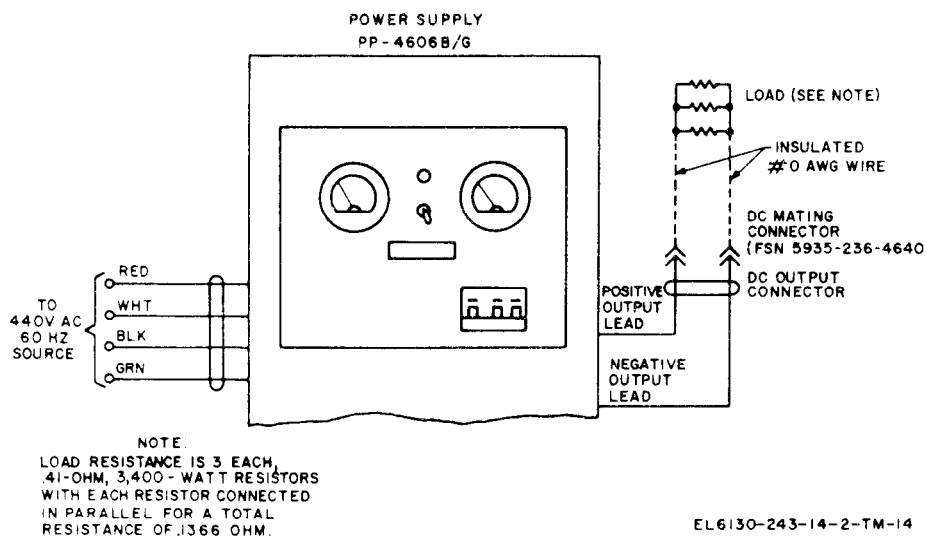

Figure 6-2. Connection diagram for output power test at 440-volt input.
(1) Resistance element, 0.41-ohm, 3,400-watt; 3 each.
(2) Power cable (as fabricated).
(3) Mating connector (FSN 5935-236-46-40).
b. *Test Connections and Conditions.* Connect the equipment as shown in figure 6-2. (This test is written for operation of the power supply at 440-volt ac.) *Do not* connect the load to the power supply until instructed to do so in the procedure given in *c* below.